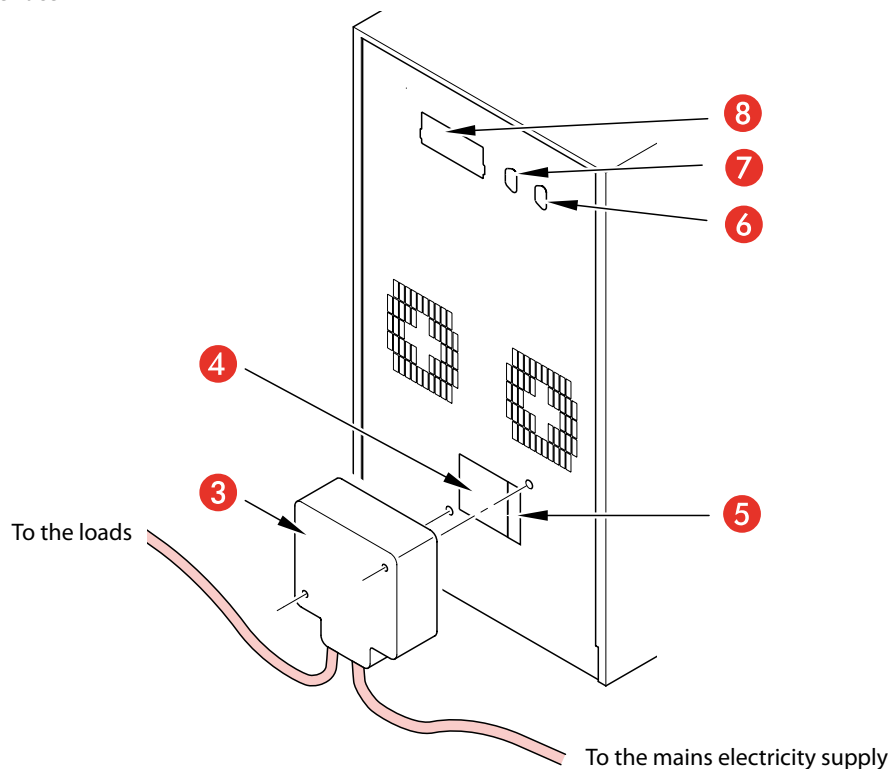

Fig. 3.
4. Put the Input-Output connector into the plug [4] located on the rear of the UPS, and secure to its case using the screws supplied (see fig. 3).
5. Secure the plastic housing to the rear of the UPS the screws supplied (see fig. 3).